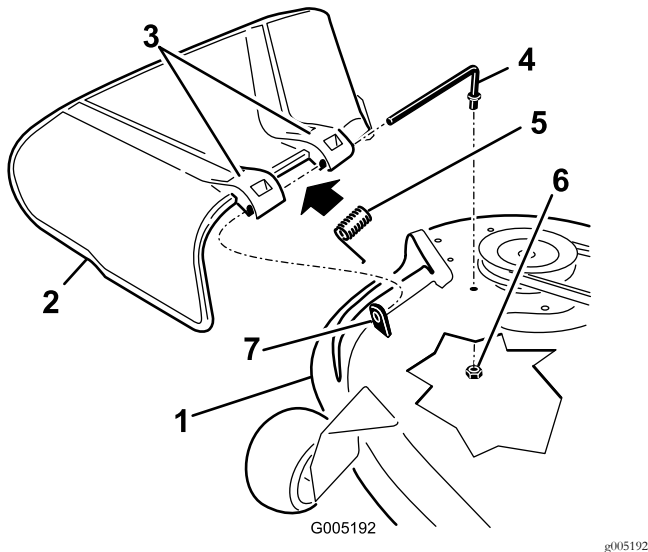

Figure 72
1. Remove the nut (3/8 inch) from the rod under the mower (Figure 72).
9. Secure the rear end of the rod into the mower with a nut (3/8 inch) as shown in Figure 72.
2. Slide the rod out of the short standoff, spring, and the grass deflector (Figure 72).
4. Replace the grass deflector (Figure 72).
7. Slide rod through the second grass-deflector bracket (Figure 72).